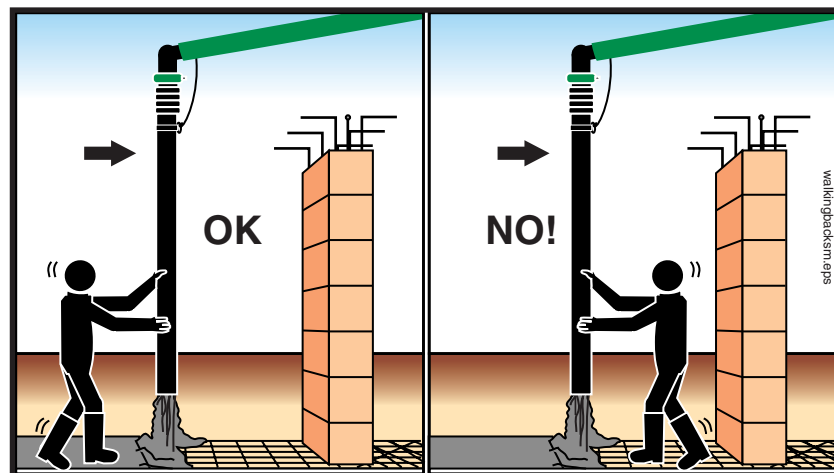

Figure 90
- 17.13 **⚠ WARNING** The hose man should not walk backwards (Figure 90). Walking forward will allow him to see obstacles and avoid tripping.
- 17.14 **⚠ WARNING** The hose man should never position himself between the boom or boom hose and any fixed object like a wall or column (Figure 90).